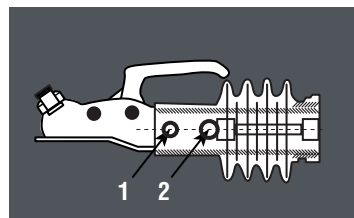
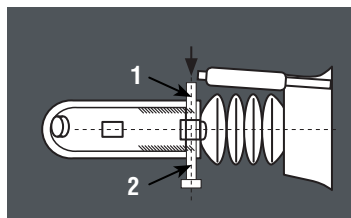
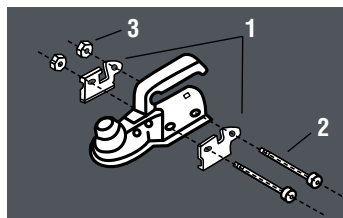

Fig 4
Fig 5
Fig 6
Before you start to remove the existing fixing bolts, please note the following: On most overrun assemblies, the shock absorber is secured by the fixing bolt (Fig 4/Item 2).
The shock absorber (damper) extends independently. Enclosed with this box is a retaining pin (Fig 5/Item 1) to aid assembly.
- a Remove gaiter and loosen self-locking nut from hexagon cap bolt (Fig 4/Item 1 and Fig 5/Item 2)
- c Push or knock out hex. cap bolt (Fig 4/Item 1)
- d Knock through retaining pin (Fig 5/2) with (Fig 5/1). Leave the pin in the shaft for centring the shock absorber (damper).
Horizontal Bolt Fitting: (for AL-KO Overruns), Fig 6.
Fit parts as shown in Figs 6 or 7. If a spacer sleeve is in the draw shaft, thread this on as well. Push retaining pin (Fig 5/Item 1) through (with the bolt behind - horizontal or vertical). Shock absorber (damper), is threaded on.
To make sure the shock absorber (damper) is threaded on, push the draw shaft in and out. If you can feel resistance, then it is correctly positioned. Always insert horizontal bolts as shown in Figs 6 and 7. ie from right to left (when facing caravan) as this allows correct clearances. Always insert vertical bolt from top to bottom and re-use original shim used on the overrun.